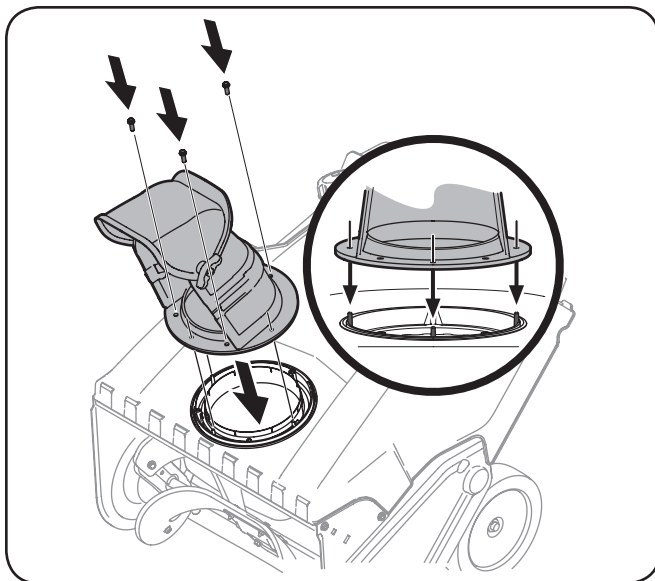

Figure 3-4
- Align the holes in the chute base with the holes in the lower chute and secure with the previously removed hex washer screws. See Fig. 3-4.